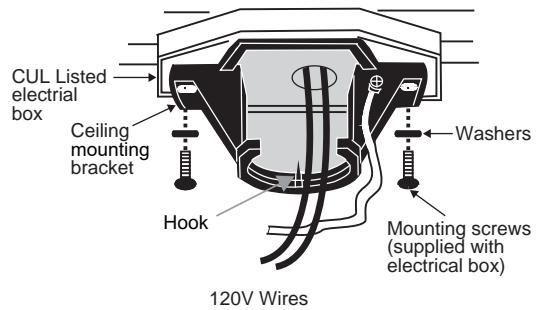

Fig. 6
Step 3. Pass the 120 volt supply wires from the ceiling outlet box through the center of the ceiling mounting bracket. (**Fig. 6**)
Step 4. Attach the ceiling mounting bracket to the outlet box using the screws and washers included with the outlet box. (**Fig. 6**)